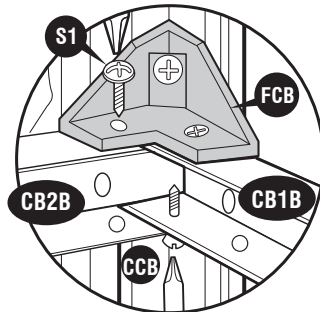

Fig. 2 : Use (**S1**) screws. Fix (**CB2B**) to (**FCB**) and (**CB1B**).
12. Stabilize the side panels with center bands (**CB3LB**) & (**CB2B**). Fix the center band fitting (**FCB**) to corner column (**CCB**) See Fig.1 Follow the Fig. 2, 3, 4 & 5.